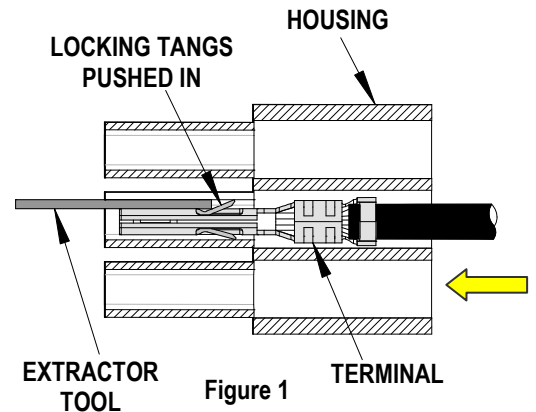

Figure 1
1. Insert the tip of the tool on either side of the terminal until it stops. See Figure 1. Rotate tool clockwise then counter-clockwise approximately 25° to 30° in each direction, once or twice.